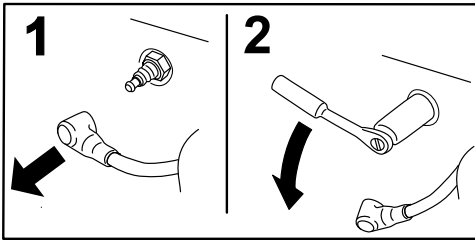

Figure 12
2. Remove the spark plug as shown in Figure 12.